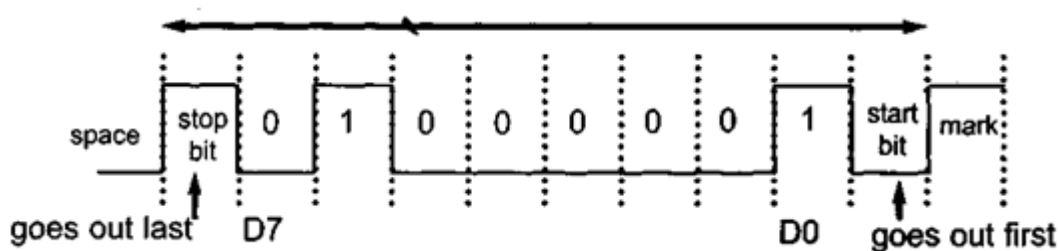

Figure 4.3: Framing ASCII “A” (41H)
5. Notice in Figure 4.3 that when there is no transfer, the signal is 1 (high), which is referred to as *mark*. The 0 (low) is referred to as *space*. Notice that the transmission begins with a start bit followed by D0, which is the LSB, then the rest of the bits until the MSB (D7), and finally, the one stop bit indicating the end of the character “A”.